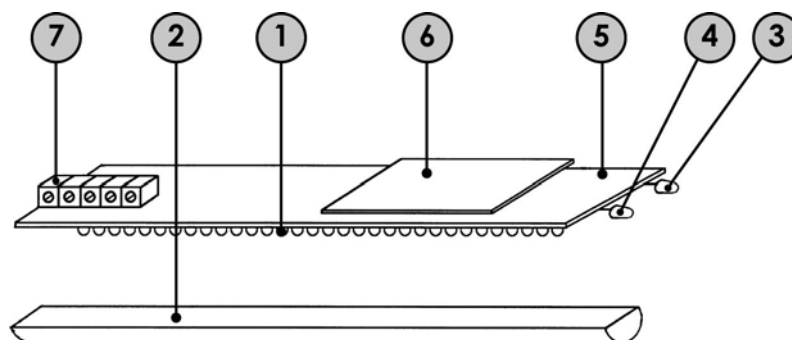

Fig. 3
- Photodiode linear arrays with infrared emission on the whole width of the film to inspect (Fig. 3 – Ref. 1)
- Focalisation optical lens (Fig. 3 – Ref. 2)
- 2 luminous LEDs [one GREEN (Fig. 3 – Ref. 3) and one RED (Fig. 3 – Ref. 4)], positioned on the side wall of the illuminator, that identify the operating condition (NORMAL or FAULTY)
- PWM circuit for piloting the diodes (Fig. 3 – Ref. 5)
- Alarm circuit for short-circuited diode or for diode opened on the array (Fig. 3 – Ref. 6)
- Power supply terminal board (Fig. 3 – Ref. 7)